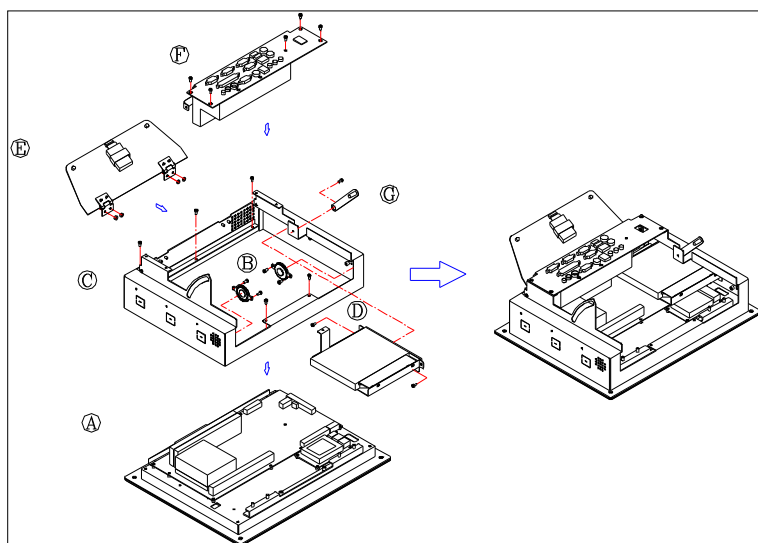
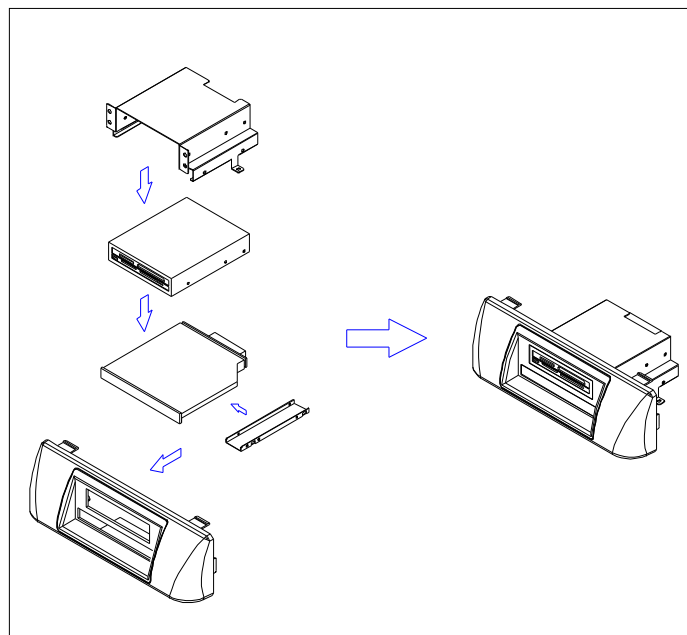

FIGURE 3-8: PANEL PC MODULE ASSEMBLY
FIGURE 3-13.MEDIA READER/CD-ROM MODULE ASSEMBLY
If a thermal receipt printer is integrated with the Kiosk, due to space limitation, the slim CD-ROM device is to be installed in the panel PC chassis as illustrated in Fig. 3-8 and accessed from the right side of the Kiosk cabinet. If no receipt printer is integrated with the Kiosk, the slim CD-ROM device can be integrated with the media card reader module and accessed from the front side.
The panel PC's individual modules are now ready to be integrated to a complete panel PC module. Refer to Fig. 3-8.
1. The first parts to be assembled to the Kiosk cabinet are four M8*23.7 rubber feet. Acting as bumpers to prevent the table surface from abrading by the metal base of the Kiosk cabinet, the rubber feet are simply to be driven tightly to the metal cabinet from the base (A).
2. Fix the two butt hinges (B) to the cabinet with two M3 K-lock nuts for each. The K-lock nuts are zinc-plated nuts with attached free-spinning external teeth lock washer. The external teeth are used for locking and tension. The two butt hinges are used to retain the panel PC module to the cabinet later.
3. Fix the metal bracket (C) to the cabinet with two TMS M3*4 screws. This metal strip is used to click the plastic printer bezel (M) into the Kiosk cabinet.
4. Connect the two USB cables to the USB outlets (D) located at the right side of the cabinet.
5. Retain the support bracket catch (E) to the left side of the cabinet with two M3 nuts. This bracket is used to accommodate the support bracket (Fig. 3-8, G) to sustain the PC module when it is integrated to the Kiosk cabinet.
6. Fix the heat pipe (F) to the left bottom side of the cabinet with two M3 nuts. The heat pipe is used to direct the cabin heat generated by the power supply out of the cabinet.
7. The Kiosk cabinet provides one 50*50*10mm cooling fan (G) to accelerate the cabin ventilation. Attach this cooler to the right side of the Kiosk cabinet with four M3 nuts.
8. Insert the power cord (H) from the opening at the left bottom side of the cabinet. Connect the power cord to the power module and integrate the power module (I) to the left bottom side of the cabinet with three TMS M3*6 screws.
9. Fix the HDD module (J) to the right bottom side of the cabinet with three TMS M3*6 screws. Connect the big 4-pin power cable from the power module to the HDD.
10. Make sure all the cables from the printer power module (K) to the printer module (L) are already properly connected.
11. Integrate the printer power module (K) to the left upper side of the cabinet with three M3 nuts. Retain the printer module (L) to the bottom of the cabinet with four TMS M3*4 screws.
13. Attach the plastic printer bezel (M) to the Kiosk cabinet front side and clip it into place.
3. Fix the metal bracket (C) to the cabinet with two TMS M3*4 screws. This metal strip is used to click the plastic media reader bezel (M) into the Kiosk cabinet.
4. Retain the support bracket catch (E) to the left side of the cabinet with two M3 nuts. This bracket is used to accommodate the support bracket (Fig. 3-8, G) to sustain the PC module when it is integrated to the Kiosk cabinet.
5. Fix the heat pipe (F) to the left bottom side of the cabinet with two M3 nuts. The heat pipe is used to direct the cabin heat generated by the power supply out of the cabinet.
6. The Kiosk cabinet provides one 50*50*10mm cooling fan (G) to accelerate the cabin ventilation. Attach this cooler to the right side of the Kiosk cabinet with four M3 nuts.
7. Insert the power cord (H) from the opening at the left bottom side of the cabinet. Connect the power cord to the power module and integrate the power module (I) to the left bottom side of the cabinet with three TMS M3*6 screws.
8. Fix the HDD module (J) to the right bottom side of the cabinet with three TMS M3*6 screws. Connect the big 4-pin power cable from the power module to the HDD.
9. Retain the media reader/CD-ROM module (K) to the bottom of the cabinet with four TMS M3*4 screws.
10. Attach the plastic media reader bezel (M) to the Kiosk cabinet front side and clip it into place.
11. Insert the panel PC support bracket (Fig. 3-8, G) into the bracket catch (Fig. 3-13, E) at the left side of the Kiosk cabinet. The support bracket can slide in the gutter of the catch to control the up and down of the panel PC module. The status of the peripherals inside the cabinet can thus be monitored.